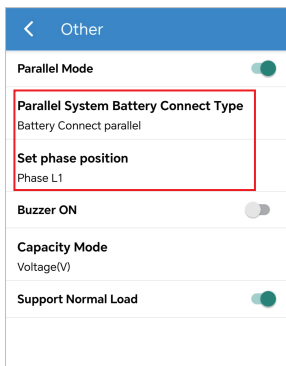

Figure 4-8 Inverter N1-Phase 1
4. Under three-phase connection mode, it is necessary to connect APP to each inverter and set corresponding battery connection type and phase position, as shown in *Figure 4-8&4-9*.